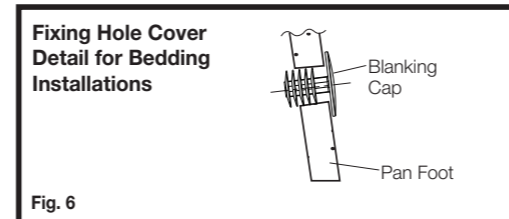

Fig. 6
- 3- Locate and fix cover caps (supplied) into pan/closet fixing holes, as detailed in Fig. 6.